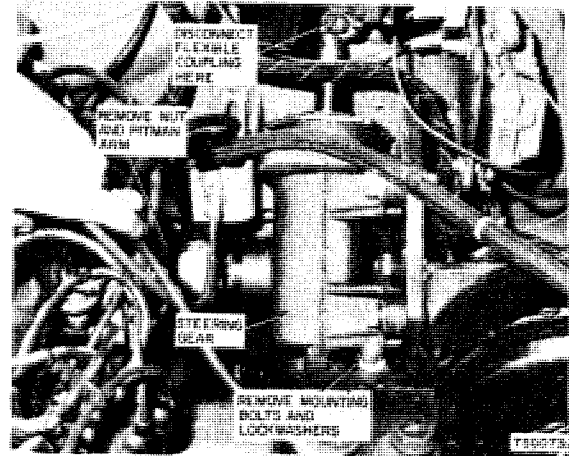

Figure 2-7. Steering Gear Mounting.
(1) Refer to figure 2-7 and disconnect steering gear from steering column by removing capscrews and nuts through the flexible coupling.
(1) Install the steering gear to the mounting bracket as shown in figure 2-7, and secure with three mounting bolts.
(2) Refill steering gear with the type and grade of lubricant specified in LO 10-3930-633-12.
(3) Align flexible coupling halves at the base of the steering column and install the two capscrews and nuts to secure the coupling.
(4) Position the steering gear in the center of its travel. Rotate the input shaft slowly from lock-to-lock and back it off one-half the total travel.
(5) With the gear at its midpoint; install the pitman arm so that it is centered in its travel between the stop screws. Secure the pitman arm by installing and tightening the locknut on the end of the pitman arm shaft.
(6) Connect pitman arm to drag link, and, if necessary, adjust drag link length as outlined in TM 10-3930-633-12.